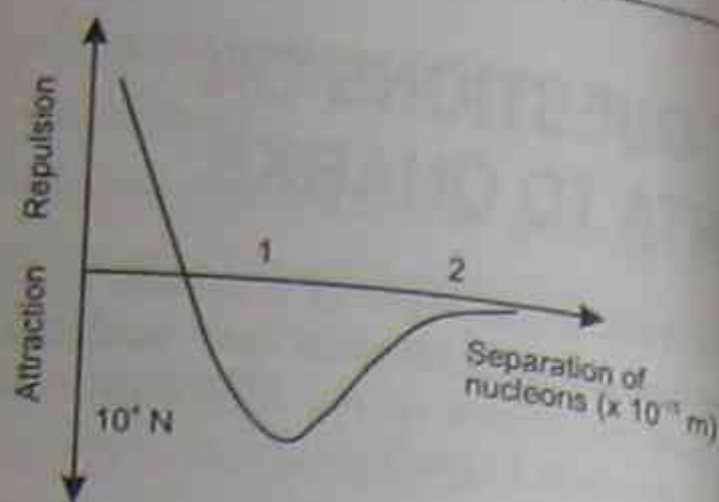

Figure 6.33
- (g) Figure 6.33 represents a graph of the nuclear force between two nucleons.